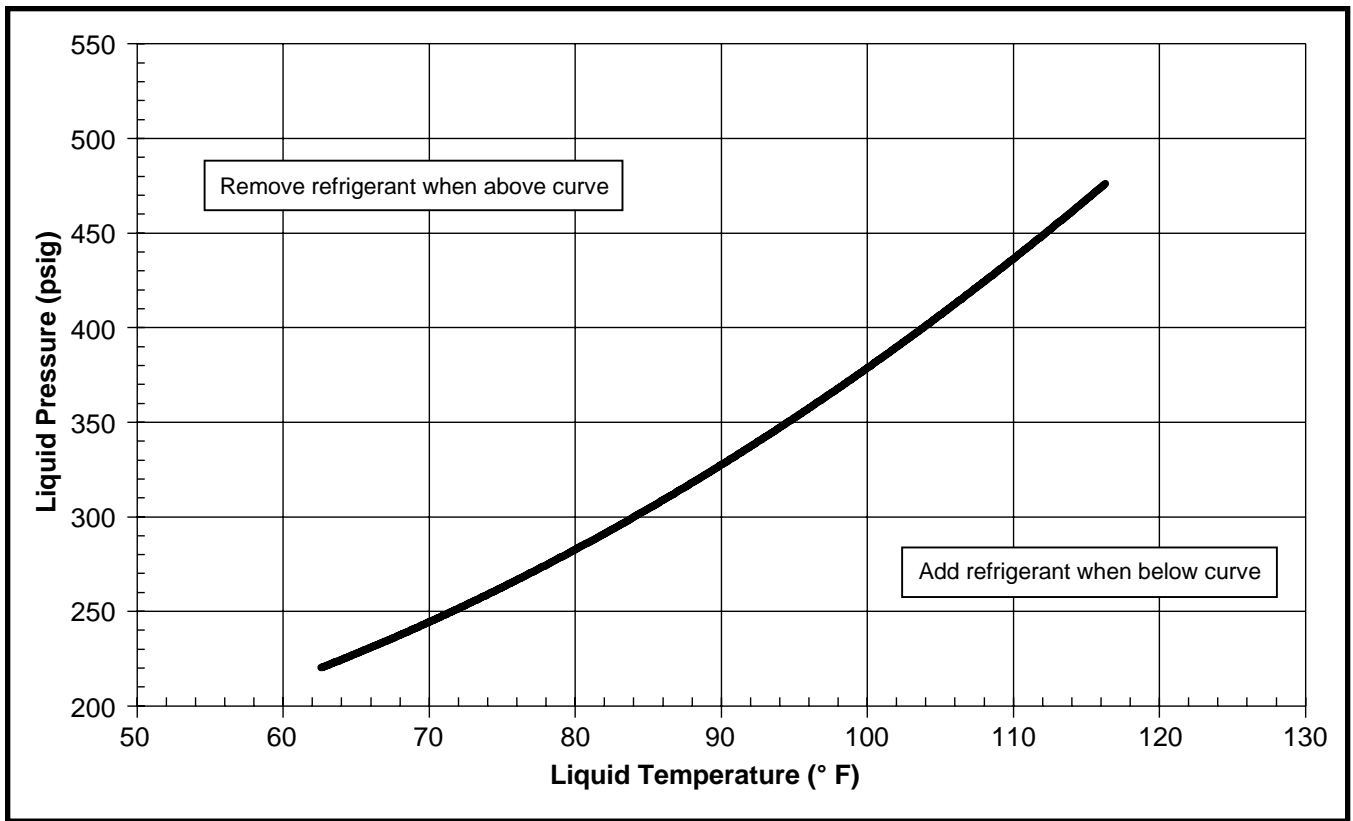
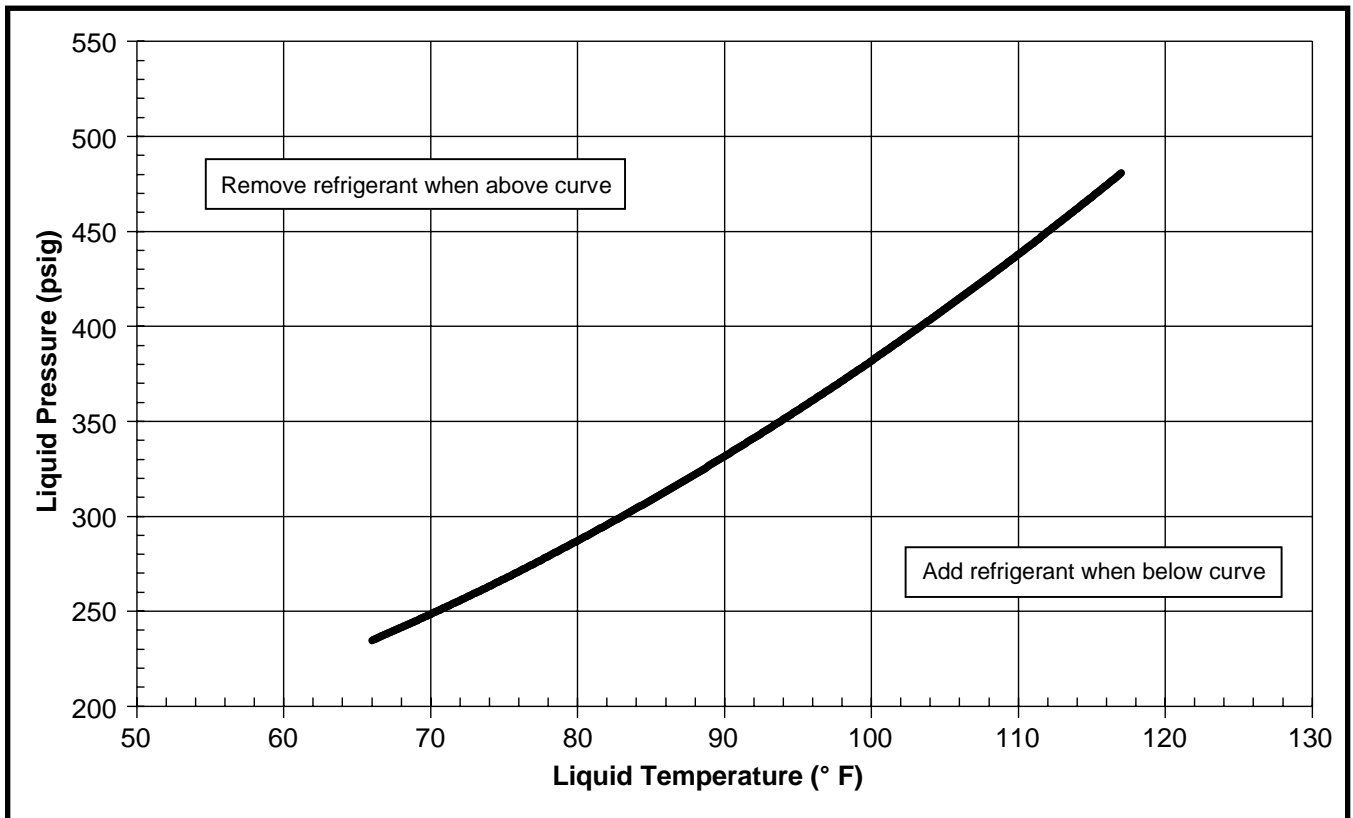

Figure 19. Charging Chart for 2 Ton Units
Figure 20. Charging Chart for 3 Ton Units
5. Using the temperature value recorded, determine the corresponding liquid refrigerant pressure from the curve in the appropriate charging chart. See Figure 19, Figure 20 \(page 37\), & Figure 22 \(page 38\).
The charging charts (Figure 19, Figure 20 \(page 37\), & Figure 22 \(page 38\)) are valid for a variety of indoor, return air conditions and are most highly influenced by the outdoor ambient temperature, outdoor fan operation and the unit operating voltage. Before referencing the charts, always make sure that the compressor circuit is energized on nominal speed (Y1 & Y2 energized) and has stable operation. As can be seen in the charging charts, the ideal system sub-cooling can vary over the range of operation. Always reference the charts to determine the ideal amount of sub-cooling for a given liquid pressure. Units charged to other values will not perform at the rated unit efficiency (EER).